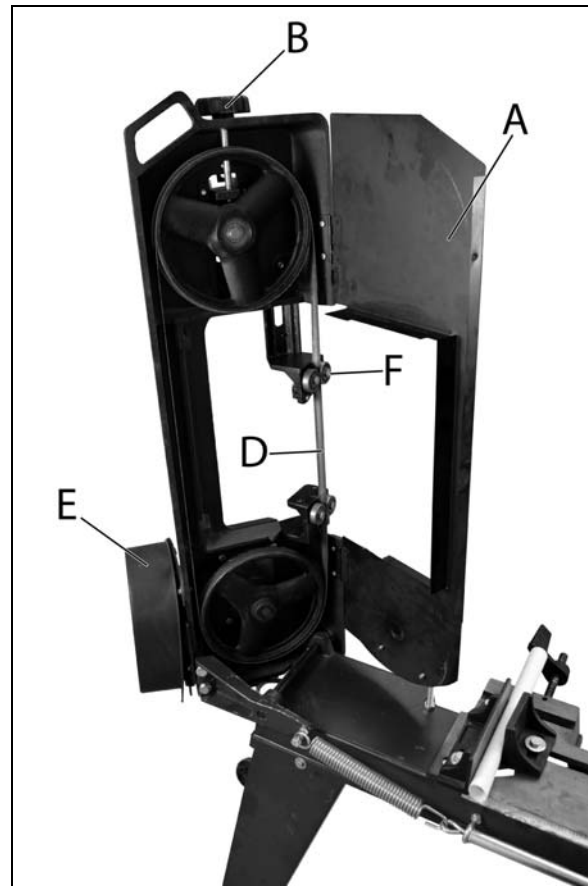

Figure 19
2. Raise the saw arm to the vertical position and open the blade wheel cover (A) (see Fig.19)
3. Release the blade tension by turning the blade tension hand knob (B)
4. Remove the two finger guards (C).
5. Slip the blade (D) off both wheels (E) and guide assemblies (E).
6. Place the new blade between each of blade guide bearings (F) and around both wheels (E). NOTE: the teeth must be pointing down on the right hand side as shown in the directional arrow.
7. Replace the finger guard (C) and adjust the blade tension by turning the hand knob (B).
8. Close the blade cover (A).